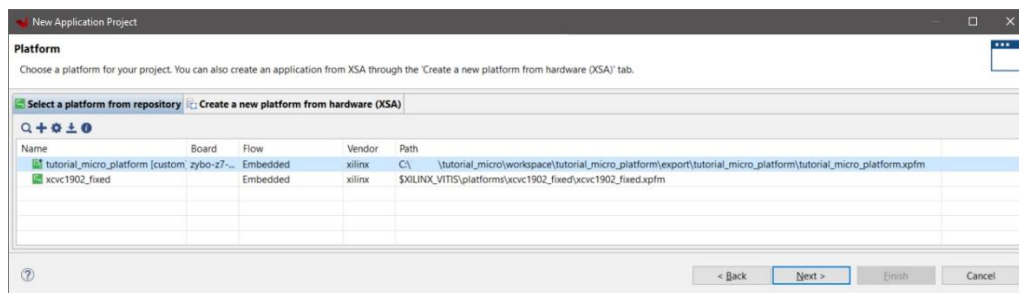

Figure 27
5. In the **Select a platform from repository** tab of the **Platform** page, select the newly created **tutorial_micro_platform** (Figure 27)
4. In the **Select a platform from repository** tab of the **Platform** page, select **tutorial_micro_platform** (see Figure 27), and click **Next**